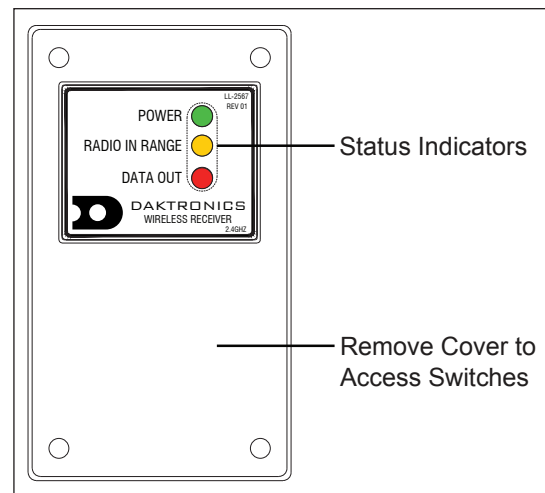

Figure 13: Radio Receiver w/ Cover
1. The radio receiver has a plastic cover with a window to view status indicators (**Figure 13**).
1. The radio base station has a plastic cover with a window to view status indicators (**Figure 13**).